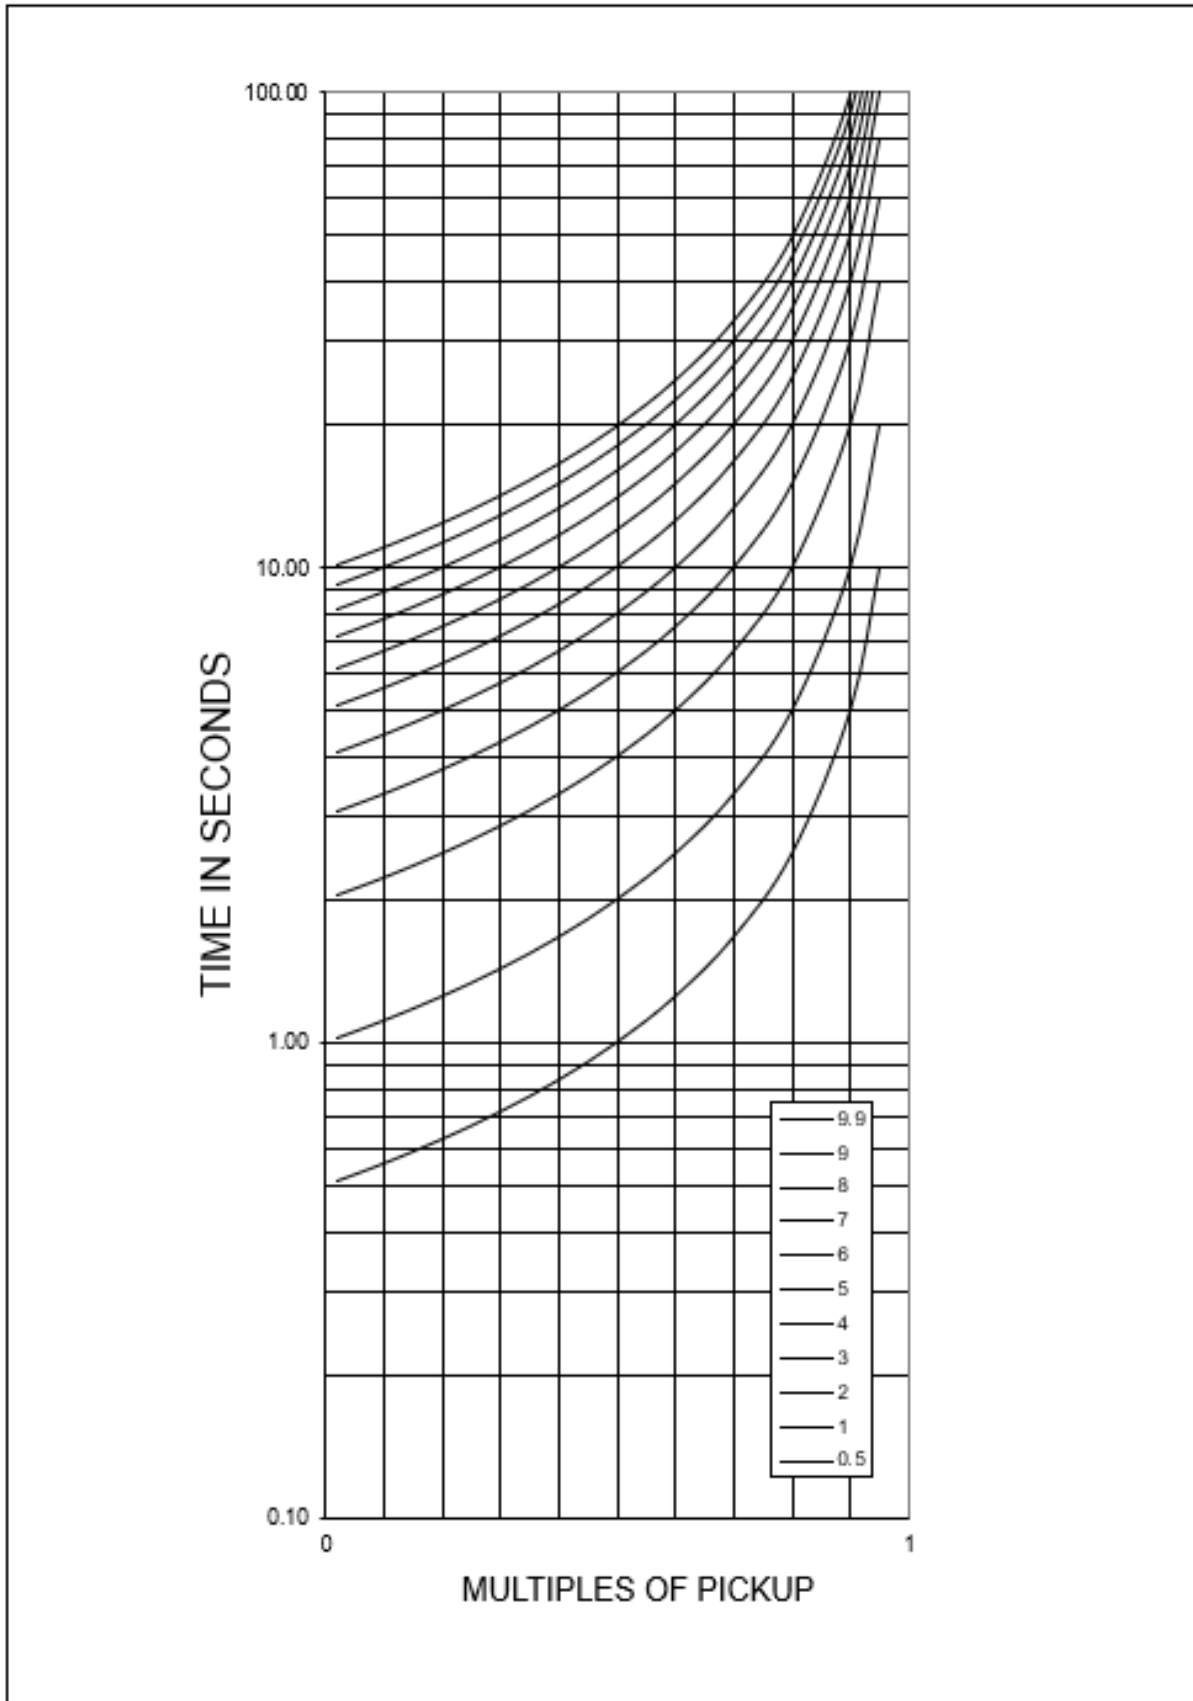
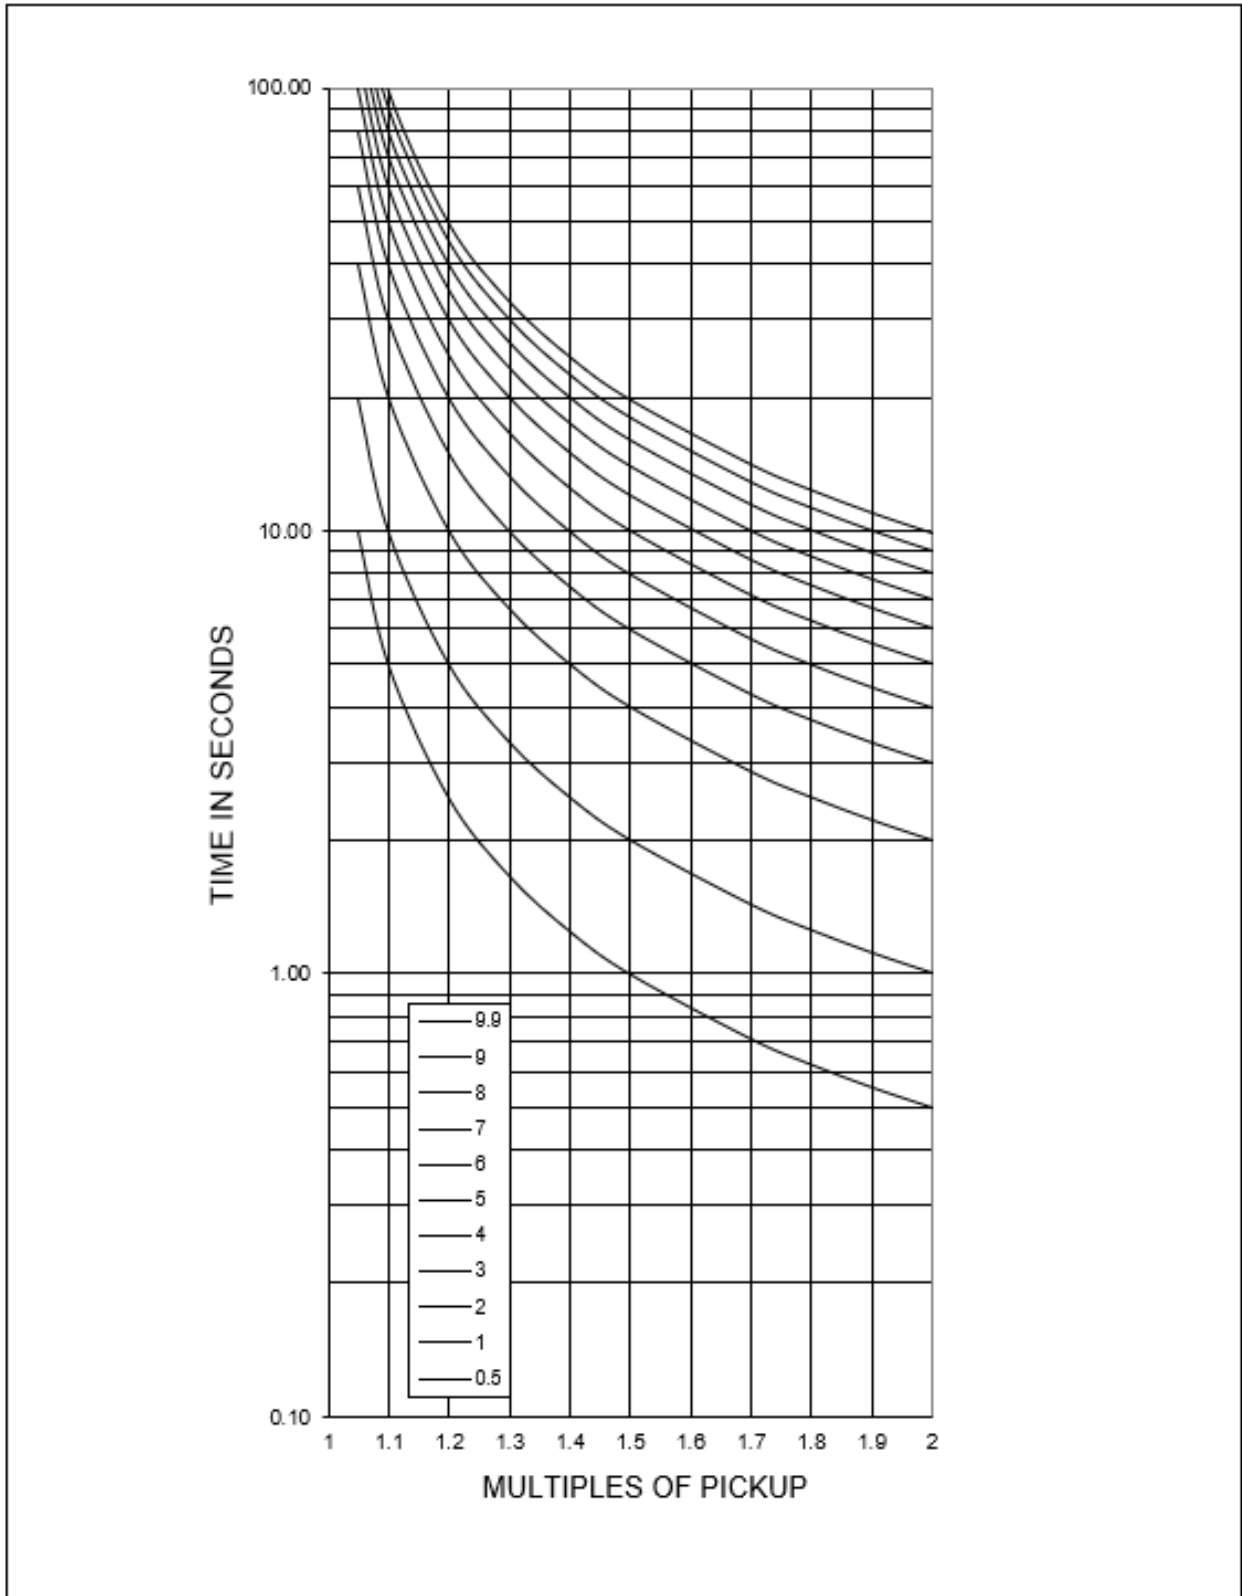
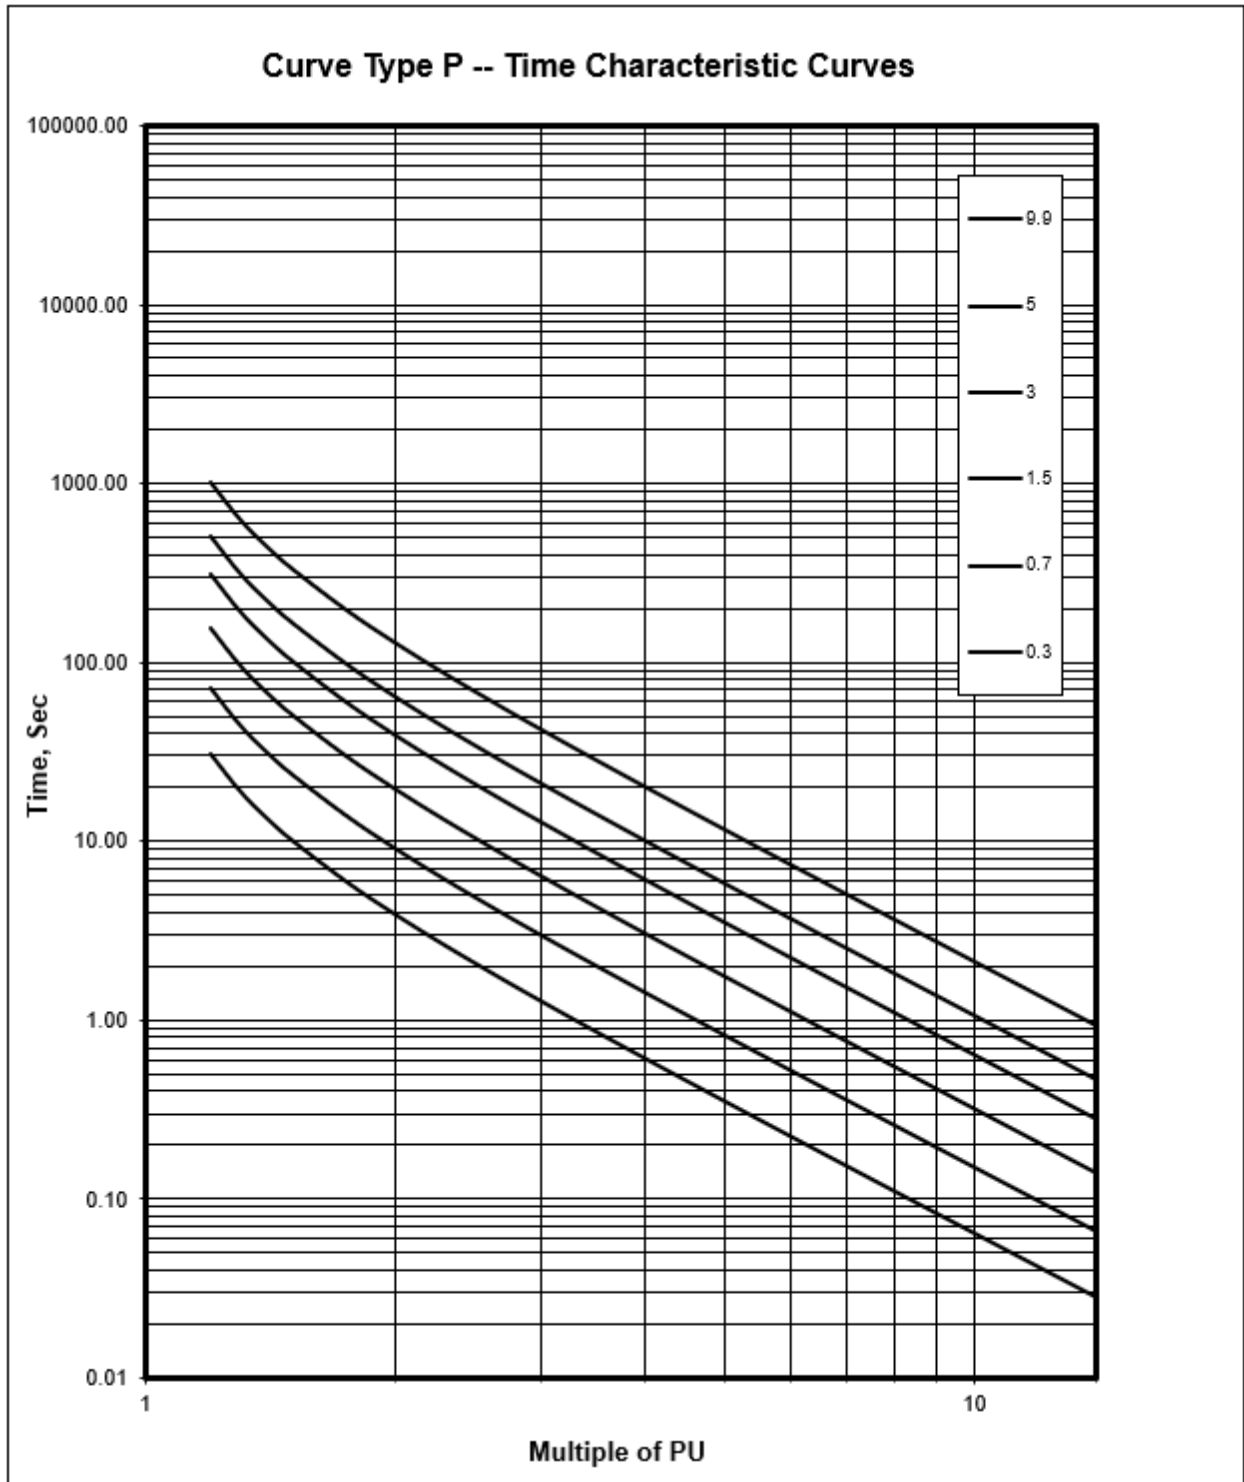

Figure 58-2. Undervoltage (27) Inverse Time Curve (Default Constants)
Figure 58-3. Overvoltage (59) Inverse Time Curve (Default Constants)
Figure 58-4. DC Overcurrent (76) Inverse Time Curve (Default Constants)
The BE1-FLEX offers multiple inverse timing methods. Standard inverse overcurrent curves are selectable. In addition, user defined Programmable (P) Curves and Table (T) Curves can be created for Over and Under, AC and DC Voltage and Current Elements (27, 51, 59 and 76). Default setting curves are shown below in Figure 58-2, Figure 58-3, and Figure 58-4.